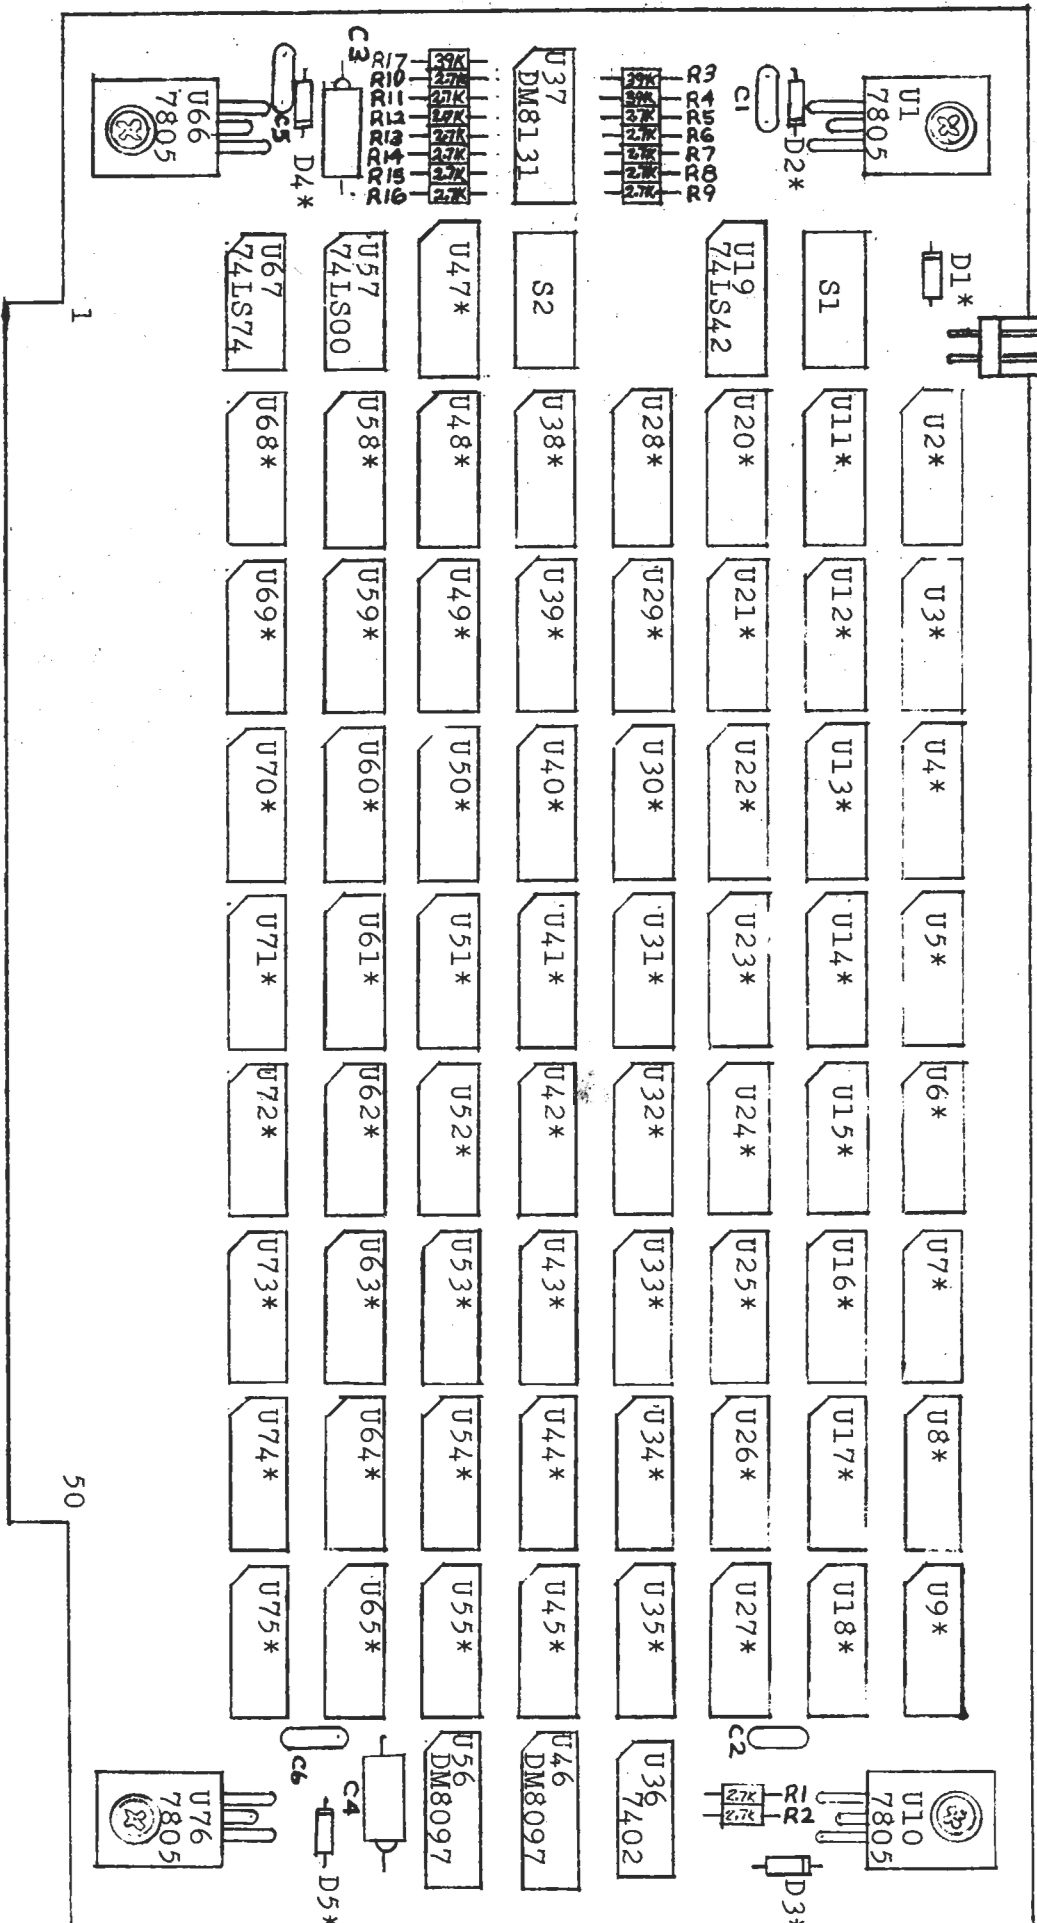

FIG 1
1.0 ASSEMBLY INSTRUCTIONS (refer to Figure 1)